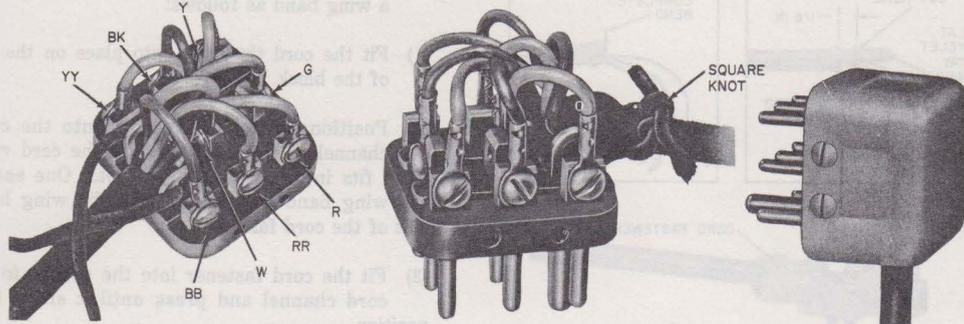

Fig. 19—274A Plug
4.08 The 274A plug (Fig. 19) is a 2-piece, 8-contact plug of molded plastic intended for use with braided fabric covered mounting cords.
- (1) Connect as indicated by color designations stamped adjacent to terminals.
- (2) Connect cord spade tips as shown in Fig. 19.
- (3) Tie mounting cord securely.
- (4) Place shell on base and tighten screws.